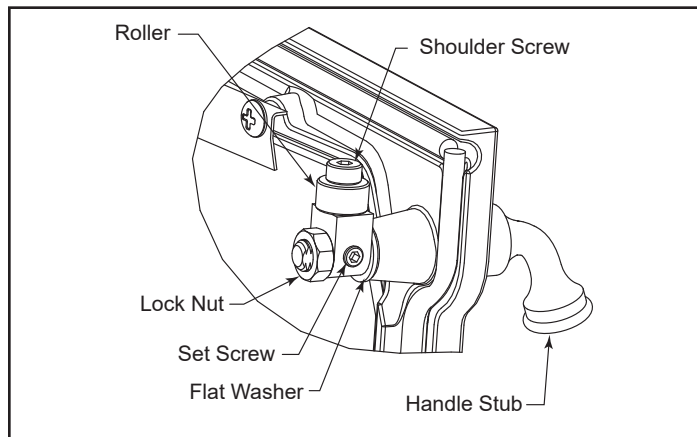

**Figure 3.3** - Rotate pawl and/or remove flat washer to adjust latch.
2. Turn the lock nut clockwise with a 9/16" wrench. (Figure 3.3)
3. Once the desired tightness is achieved, tighten the set screw. (Figure 3.3)